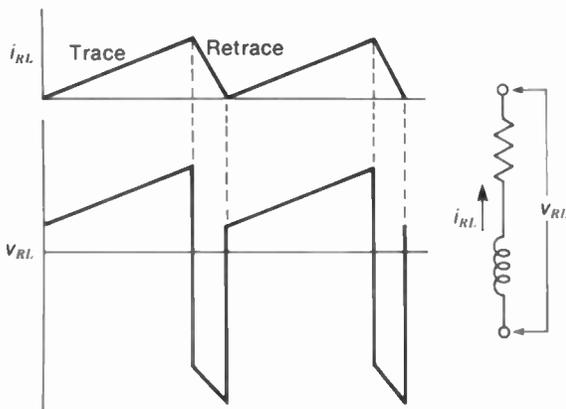

FIGURE 20-30 TRAPEZOIDAL VOLTAGE  $v_{RL}$  WITH SAWTOOTH CURRENT FOR AN  $RL$  CIRCUIT.
**Trapezoidal voltage for an  $RL$  circuit.** This waveform combines the sawtooth voltage needed for  $R$  with the rectangular voltage needed for  $L$ , as shown in Fig. 20-30. With sawtooth current through a circuit having inductance and resistance, therefore, the voltage waveform is a trapezoid. Or to produce sawtooth current in a circuit with  $R$  and  $L$ , trapezoidal voltage must be applied.
**Voltage waveshapes for vertical deflection.** The self-induced voltage is smaller at the lower scanning frequency. Therefore, both  $R$  and  $L$  must be considered. With sawtooth current, the result is trapezoidal voltage across the  $RL$  circuit. The polarity may be as in Fig. 20-30, but can be inverted. Figure 20-31a illustrates a negative-going sawtooth waveform, and Fig. 20-31b, rectangular  $v_L$  with a positive spike for flyback. The resultant trapezoid in Fig. 20-31c has the inverted polarity usually produced in the vertical output circuit.